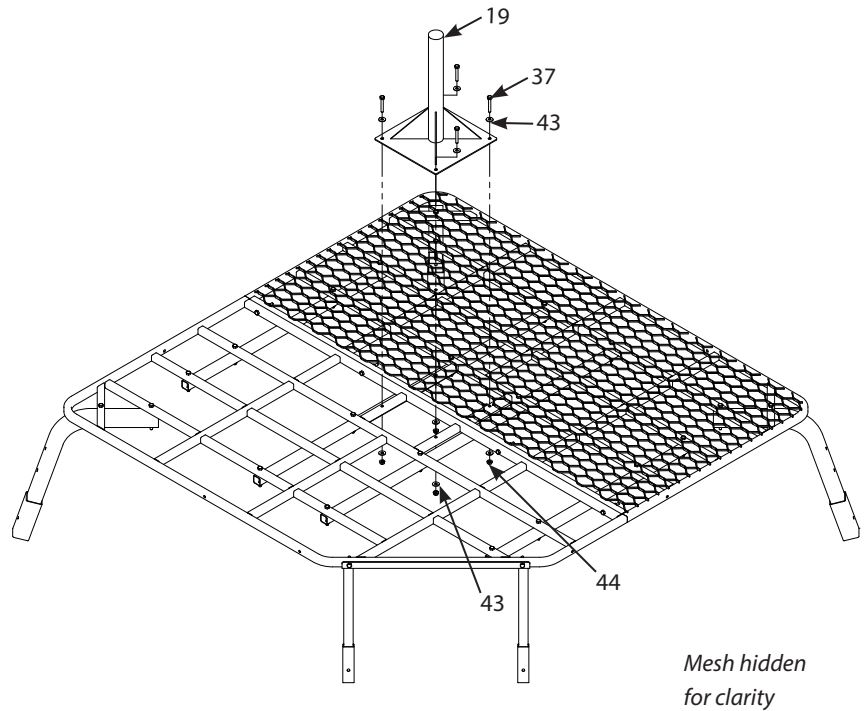

FIGURE 5
- Attach the seat post bottom (19) to the assembled platform using four 1/4-20 X 1-3/4 IN bolts (37), eight 1/4 IN steel washers (43), and four 1/4-20 nuts (44). **SEE FIGURE 5.** *Securely tighten all loose hardware at this time.*